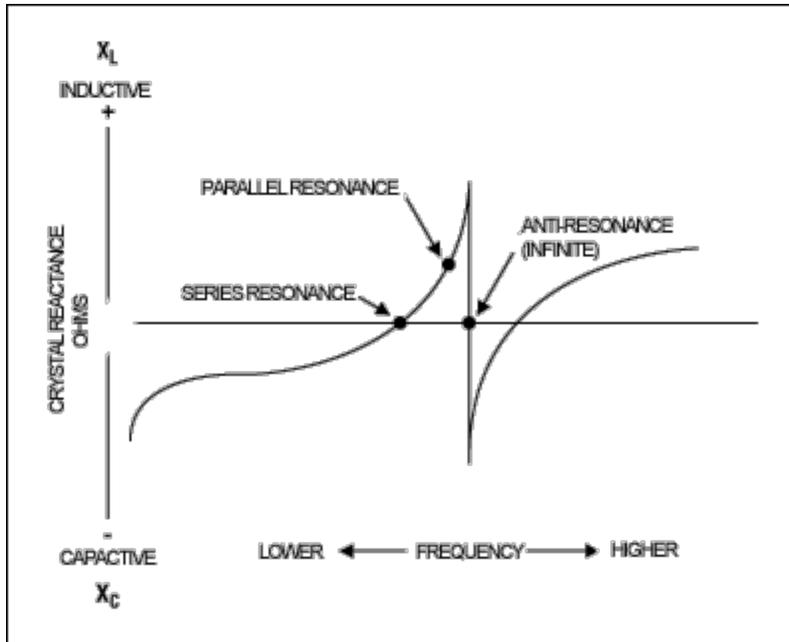

Figure 2. Crystal impedance versus frequency.
**Figure 2** shows crystal impedance behavior versus frequency, and the relative location of each resonance mode.
Load capacitance is an important specification when using parallel-resonant oscillation mode. Figure 2 shows that crystal parallel-resonance mode is always above the series resonance frequency and is characterized by inductive reactance. In parallel-resonance oscillation mode, the crystal's inductance (motional inductance) is in parallel with the oscillator's load capacitance, thereby forming an LC tank circuit. This LC determines the oscillator frequency. If your oscillator uses parallel resonance, the crystal vendor *must* know the load capacitance employed by the oscillator circuit. The load capacitance is simply the amount of external circuit capacitance in parallel with the crystal itself when it is placed in the oscillator circuit. The crystal vendor will then ensure that your crystal is calibrated at the factory using this same load capacitance. Vendors are flexible regarding load capacitance. Ask them what range of load capacitance can you specify. Your oscillator should fall within the crystal vendor's acceptable range of load capacitance.
In Figure 2, the anti-resonance occurs when the net inductive component of the crystal model resonates with the crystal's internal holder capacitance. Anti-resonance is not used for oscillator designs.